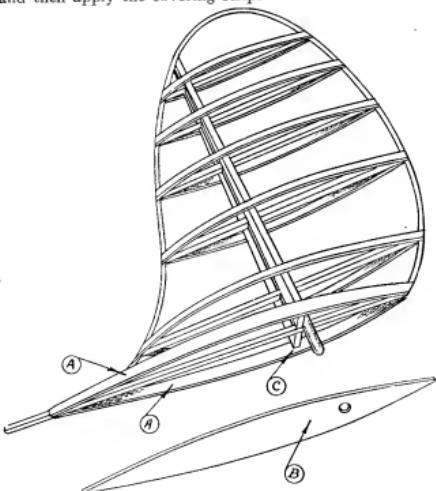

Fig. 156.
In the first place, the main spar must be built up into a tapering section. This is done in the manner indicated in Fig. 155; that is, by cementing long, wedge-shaped pieces of $3/32$ in. balsa (shown shaded) to the top and bottom of the existing spar. Next, the tail section must be formed by cementing strips of $1/32$ in. balsa, $1/8$ in. wide, across the tail above each cross strut. These strips are cemented to the leading edge, over the built-up main spar, to the trailing edge. This will produce a cambered surface over which the covering tissue may later be stretched. The camber is equal on both top and bottom surfaces of the tail planes. I trust that the drawing in Fig. 156 will make these processes clear. The portion marked (B) represents a shaped piece of $1/32$ in. balsa sheet, which is cut to fit between the strips (A) (A). It may be easier to cement first this strip to the main structure, and then apply the covering strips